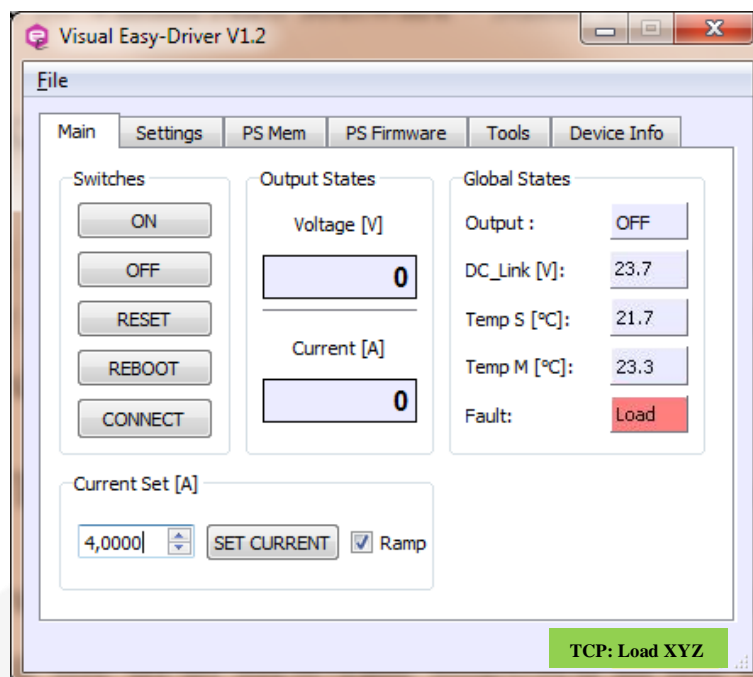

Figure 6: Visual EASY-DRIVER - external fault from the magnet/load
- **Fault**: indicates the type of fault occurred, if any. The same message is reported in the status bar and an example is shown in **Figure 6**.